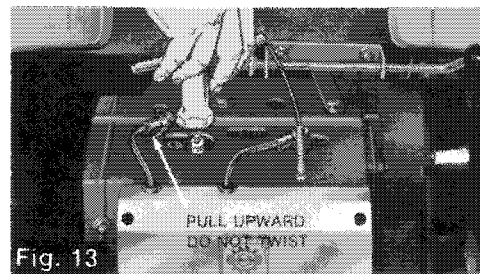

Fig. 13
2. Remove spark plug(s) using box wrench supplied in the tool kit (See Fig. 13).